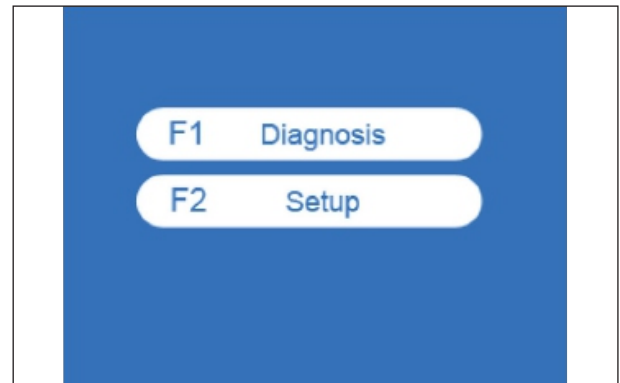

Fig. 7.3
- **Diagnosis(F1)** - Used to check the vehicle for errors and functionality. (Fig. 7.3)
- **Setup(F2)** - Change language and settings of the diagnostic tool. (Fig. 7.3)